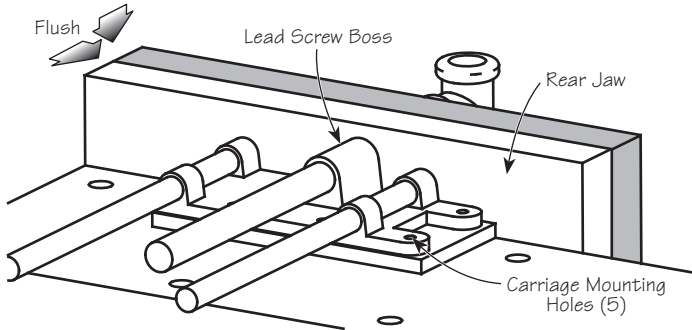

Figure 9: Mounting the carriage.
- Place the carriage and any spacer(s), on the underside of the bench, with the lead screw boss toward the rear jaw as shown in **Figure 9**.